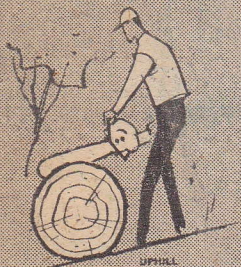

FIGURE 16
1. Remember to stand on uphill side of log when bucking (Figure 16). When log is flat on ground, watch for stones that can blunt teeth in an instant. It is best to stop cutting an inch from ground, later roll log and separate pieces.